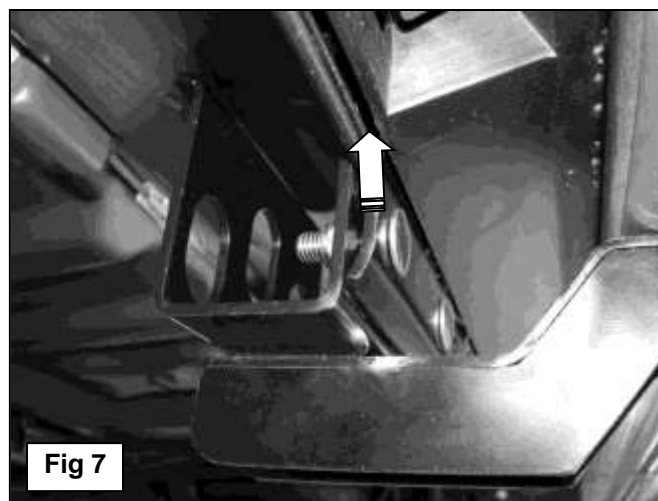

**Fig 5**
5. Bolt the Clamp Plate to the outside of the center Bracket with (2) 8mm Carriage Bolts (insert through Plate and the Bracket), (2) 8mm x 22mm Large Flat Washers and (2) 8mm Nylon Lock Nuts, **(Figure 5)**. Do not tighten hardware at this time.